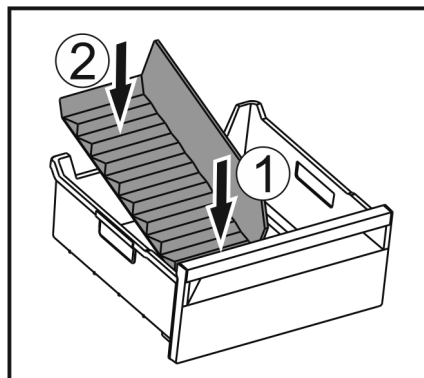

Fig. 140
- ▶ Insert the front part of the ice compartment divider. Fig. 140 (1)
- ▶ Lower the rear part of the ice compartment divider to the drawer bottom. Fig. 140 (2)